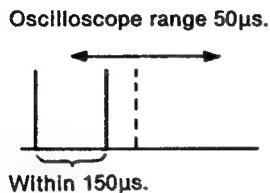

Fig. 10
- If the pulse width shown is within 150μsec, the adjustment is good (Fig. 10).